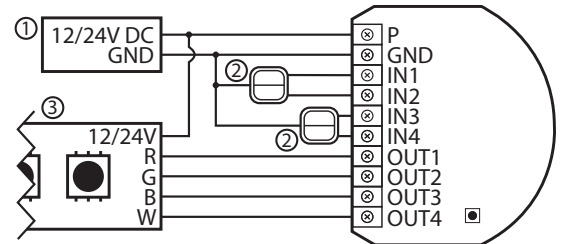

Figure 2: Connection with RGBW/RGB LED strip
We recommend connecting LED strip channels in the same order as in Figure 2 (R - OUT1, G - OUT2, B - OUT3, W - OUT4). If you want to connect RGB strip, use the same figure, but don't connect OUT4 channel.
2. Connect in accordance with Figure 2.